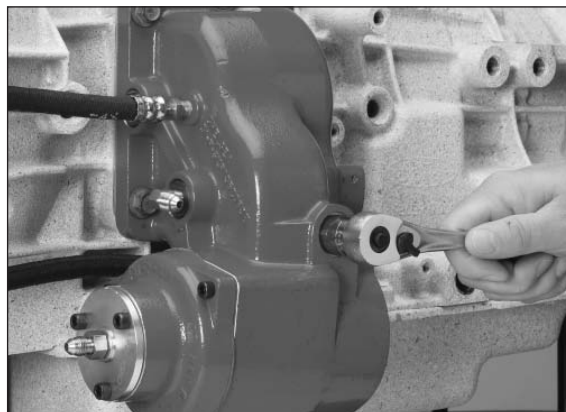

Figure 20
12. Make sure the O-Ring from the stud kit is still on the longer hex head capscrew. Install this hex head capscrew and O-Ring in the bottom mounting hole finger tight (**Fig. 20**).